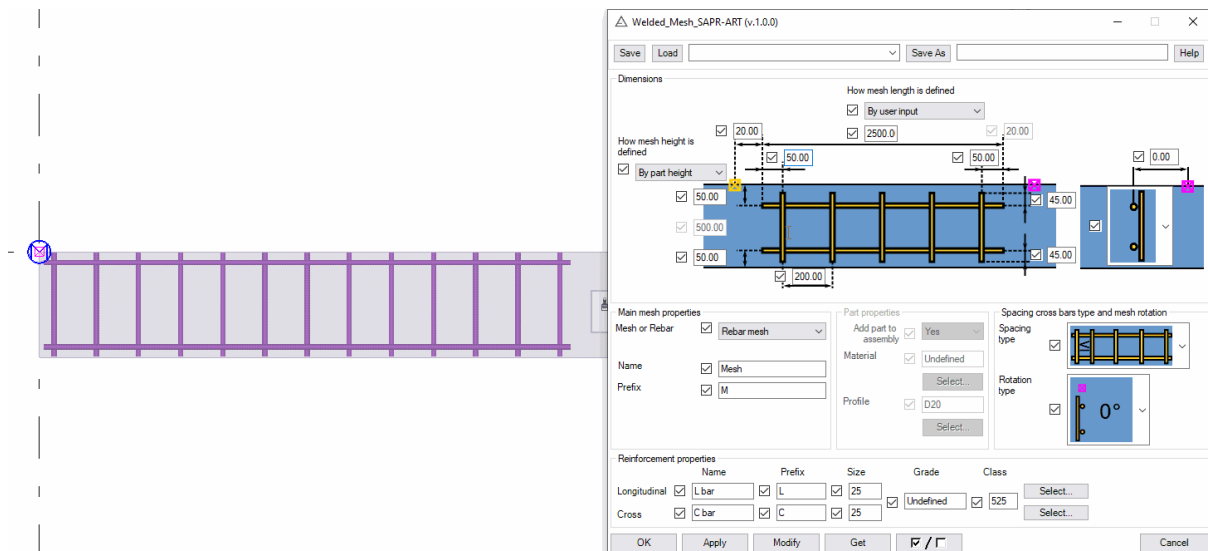

Figure 6. Modifying overhangs, spacings and cross bar location
- Modifying overhangs, spacings of the mesh and a cross bar location (see figure 6)